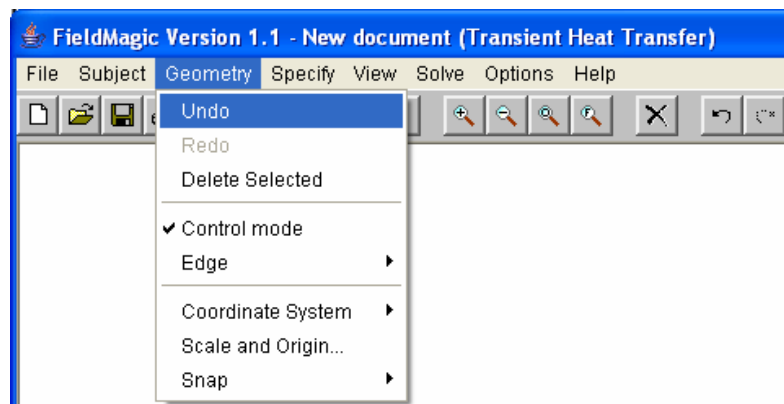

Figure 56. To undo a change in the geometry, select “Geometry” → “Undo”
- Undo/Redo: Any changes made to the geometry can be undone by selecting “Undo” from the drop-down “Geometry” menu (Figure 56) or by pressing the undo toolbar button. A series of changes can be undone by repeating this process. To redo a change that has been undone, simply select “Redo” from the drop-down “Geometry” menu or press the redo toolbar button. Undo and redo can also be done by holding “Ctrl”, control, and pressing “Z” or “Y” respectively.